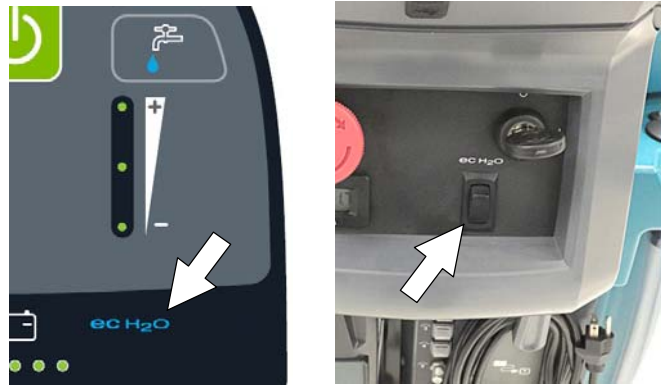

FIG. 35
3. ec-H2O models - The ec-H2O system will automatically turn on at key start up. The ec-H2O indicator will appear on the control panel indicating that the system is activated (Figure 35).
**ATTENTION:** When conventional scrubbing with cleaning detergents in solution tank, make sure to turn off the ec-H2O system by pressing the ec-H2O switch (Figure 35). If cleaning detergent is accidentally cycled through ec-H2O system, a system fault will occur. To clear fault, drain solution tank, add clear water and operate the ec-H2O system to clear fault. If fault repeats, continue to recycle key until fault clears. See SERVICE INDICATOR CODES for further detail.